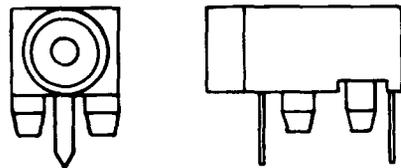

Fig. 7—KS-19427, L8 Through L14, Pin Jacks
2.07 KS-19427, L8 through L14: The KS-19427, L8 through L14, jacks (Fig. 7) are pin-type equipped with two tabs for connection and two square mounting feet for press-fit mounting to a printed circuit board. These jacks are used as a test point on plug-in units of the N3 Carrier and SLC-96 Systems.